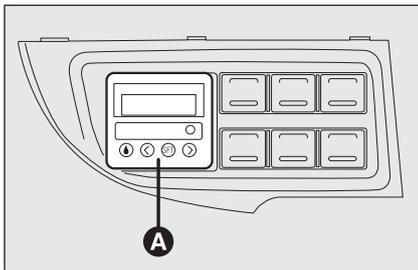

fig. 54
- digital timer **A-fig. 54** to start the heater manually or to program starting time.